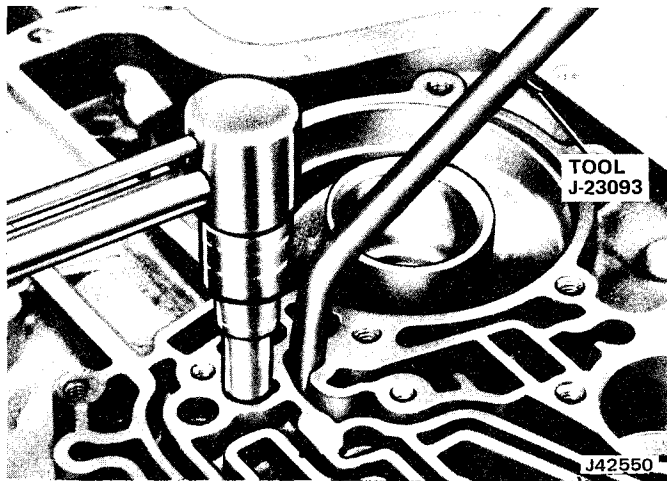

Fig. 2C-152 Center Support Bolt Installation
(15) Lubricate two flat and one waved steel plates and three composition-faced intermediate clutch plates with transmission fluid. Install plates starting with waved steel plate and alternating composition-faced and steel plates.
(16) Install intermediate clutch backing plate, with ridge facing upward or forward, and install backing plate-to-case snap ring. **This snap ring is flat on both sides. Locate gap of snap ring opposite band anchor pin (fig. 2C-151).**